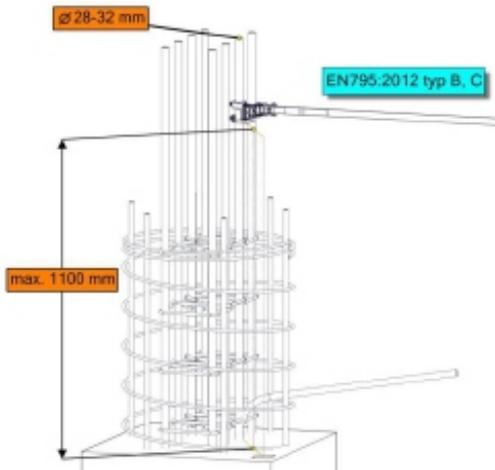

Figure 8. Installation of horizontal lifelines in connection with anchor point A-165
– height up to 1100mm above concrete structure for ribbed bars with core diameter 28–32mm. Figure 8
If the anchor point is going to be used with horizontal anchor system compliant with EN 795:2012 type B, C, and Figure 8 it is necessary to meet the following conditions: